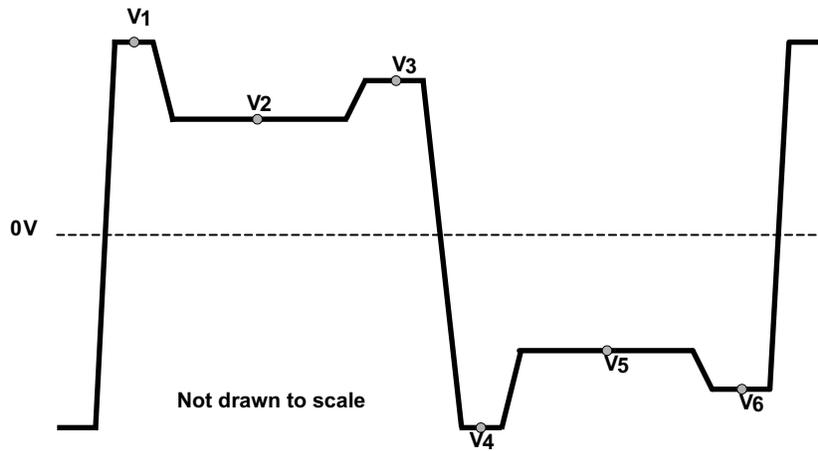
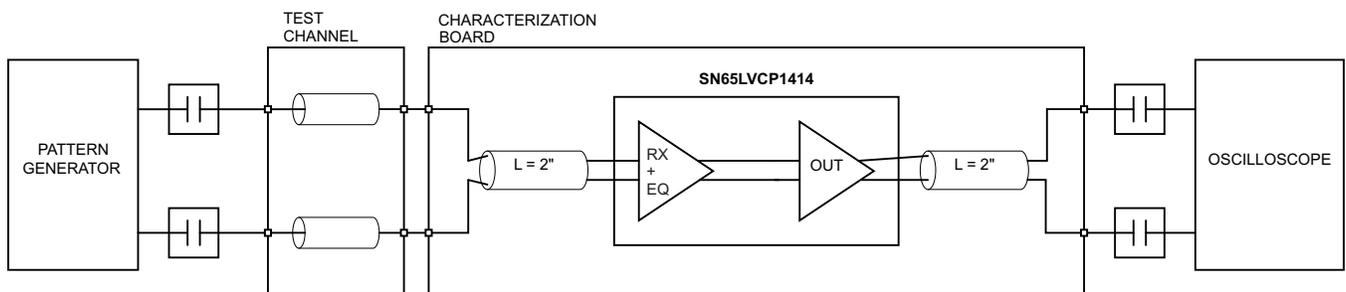
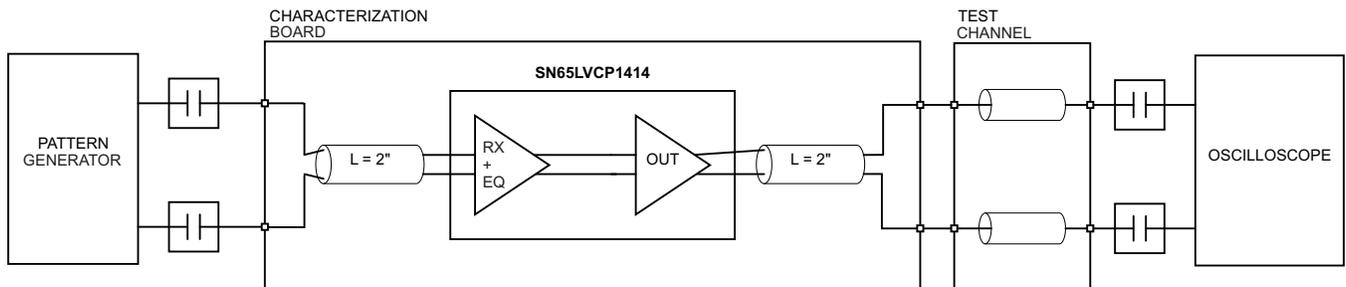

Figure 9. Vpre and Vpost (test pattern is 1111111100000000 (8-1s, 8-0s))
Figure 10. Receive Side Performance Test Circuit
Figure 11. Transmit Side Performance Test Circuit
(2) Rise and Fall measurements include board and channel effects of the test environment, refer to Figure 10 and Figure 11.
(3) t_{SK(O)} is the magnitude of the time difference between the channels.
(4) t_{SK(PP)} is the magnitude of the difference in propagation delay times between any specified terminals of two devices when both devices operate with the same supply voltages, at the same temperature, and have identical packages and test circuits.
(5) All noise sources added.
Regarding timing, the SN65LVCP1414 is I²C compatible. The typical timing is shown in Figure 9 and a complete data transfer is shown in Figure 10. Parameters for Figure 9 are defined in Table 3.